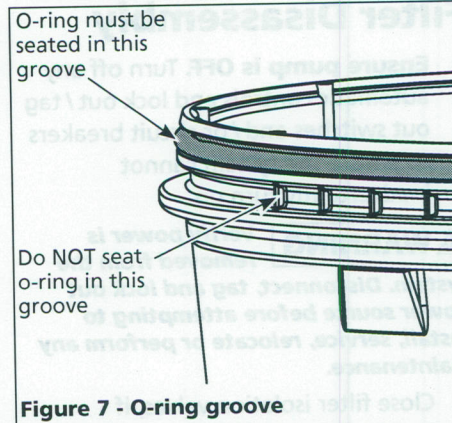

Figure 7 - O-ring groove
4. Inspect o-ring. Ensure the o-ring is clean and properly seated in the o-ring groove (Figure 7). The o-ring should not be twisted.